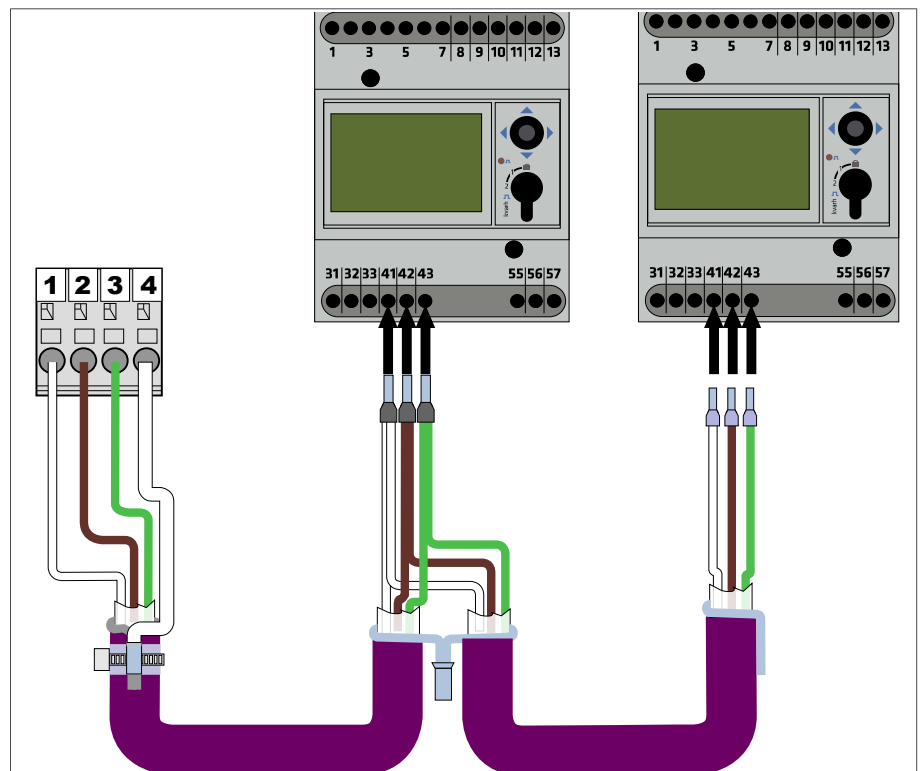

Figure 30: Connecting the communication line
► Connect the communication line as shown in figure 30. Please observe the specification in section 4.6.1 - p. 20.